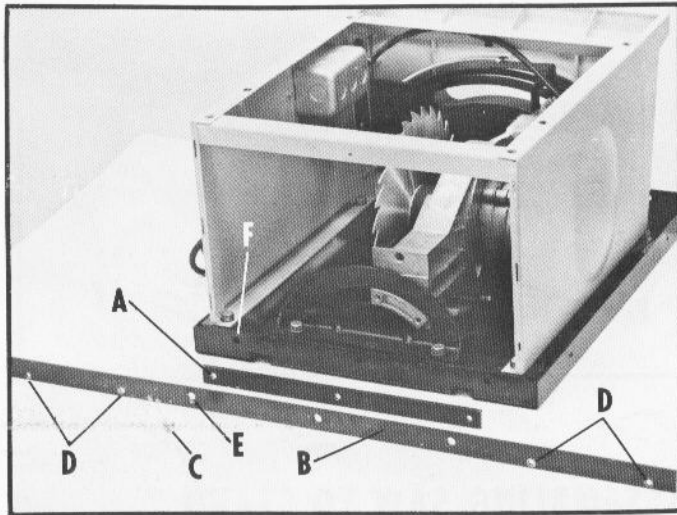

Fig. 7
3. Fig. 7, illustrates one of the reinforcing bars (A) and extension wing support bars (B) supplied with the saw along with the 5/16" x 1/2" round head screw (C). Proceed as follows to assemble these items to the rear of the saw table.
4. With the extension wing support bar (B) Fig. 7 and 8, positioned so that the small holes (D) are towards the top of the table as shown, insert the 5/16" x 1/2" round head screw (C) in the large hole (E) of the wing support bar. Place the reinforcing bar (A) behind the saw table flange so that one of the threaded end holes in the reinforcing bar (A) is in line with the left hand through hole (F) Fig. 7, in the table flange. Then place the wing support bar (B) and screw (C) against the outside of the table flange and run the screw thru the flange and into the threaded hole in the reinforcing bar (A).